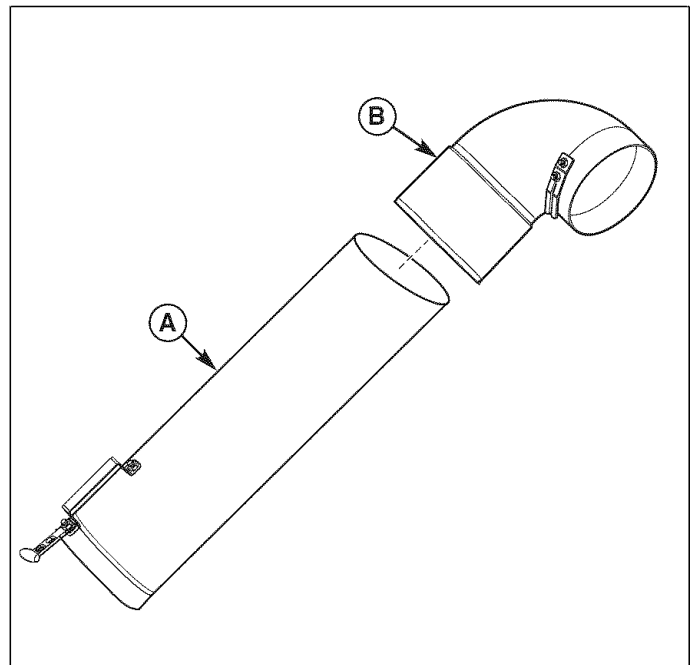

Figure 8. Connecting Upper and Middle Tube
1. Slide lower tube (A, Figure 8) into upper tube (B).